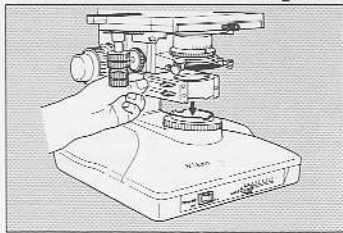

Fig.3-2
- 2) Mount the ND filter cassette, if used (Fig. 3-2). (Refer to II .ASSEMBLY-⑩ p.10)